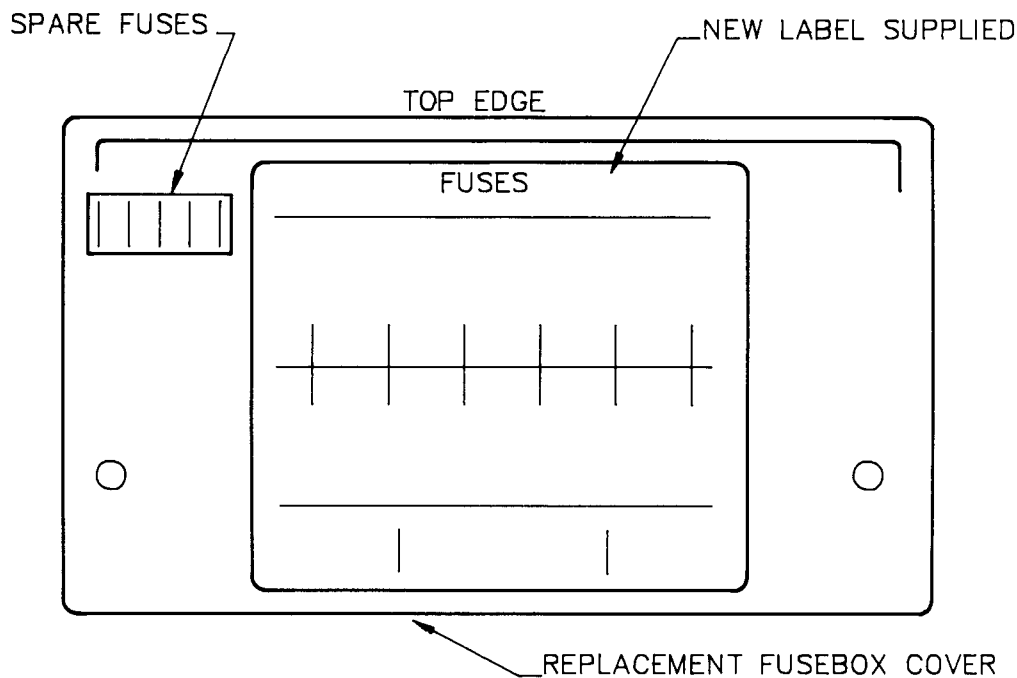

Figure 8 - Fuse Panel Label
- bw. To the inside surface of the replacement fuse box cover (Item 11, Table 2) attach supplied label (Item 13, Table 2) and spare fuses as shown in Figure 8 to the double sided adhesive pad.